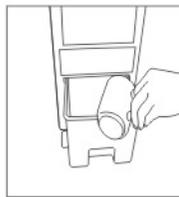

fig.2
4. Pull the water tank out about 10 cm. and add water (fig. 2). Use the locking pin when closing the tank to fix its position.